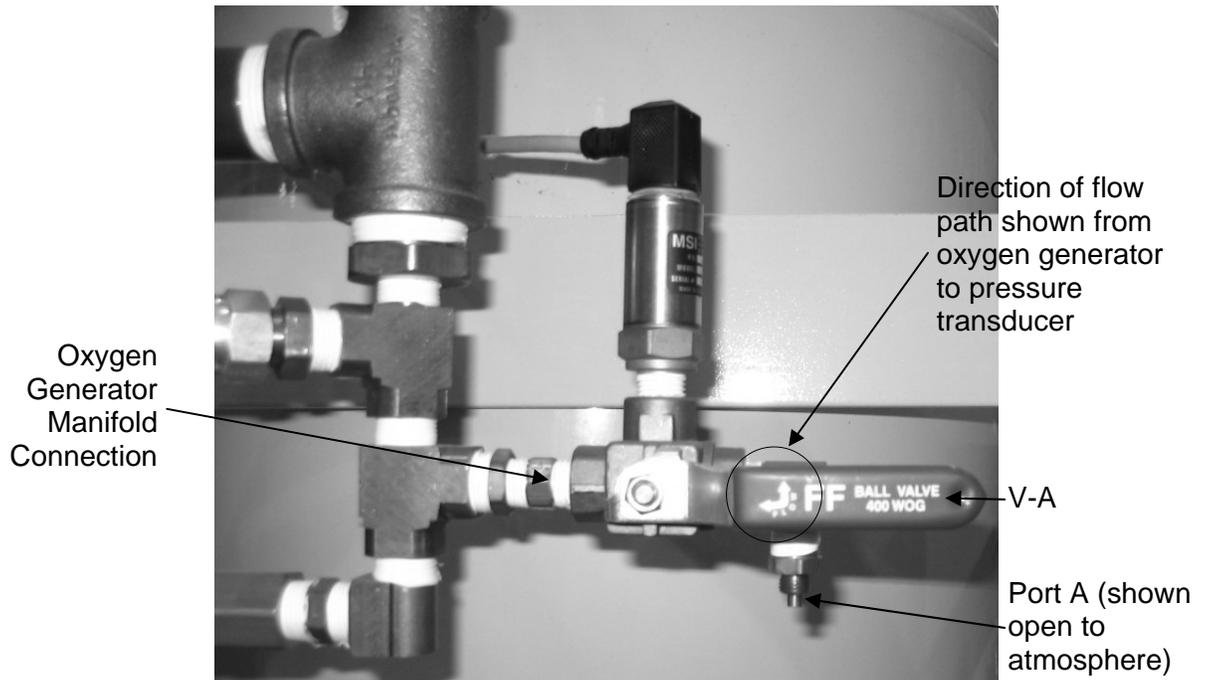

**Figure 4.8: Typical Bed Pressure Calibration Screen**
1. To calibrate pressure transducer, press the 'BYPASS TRANSMITTERS' icon on the screen to bypass the pressure transducer signal to the PLC. The text of the icon will change to 'TRANSMITTERS BYPASSED' as shown in Figure 4.8.